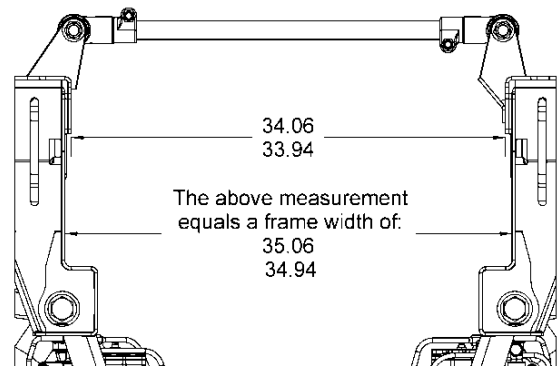

Figure 14 – Frame Width Measurement
3. Tilt the truck cab. Measure the frame width as shown in **(Figure 14)**. Adjust if not within specified range of between 33.94" to 34.06". Once the width is within the range torque both clamp bolts to **125-145 lb-ft**. Lower the truck cab.